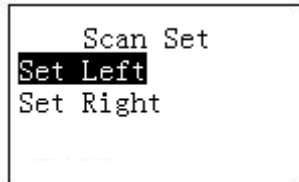

Figure 3-4
a) Select Set and then click **【ENTER】** , you can see an interface shown as in Figure 3-4.